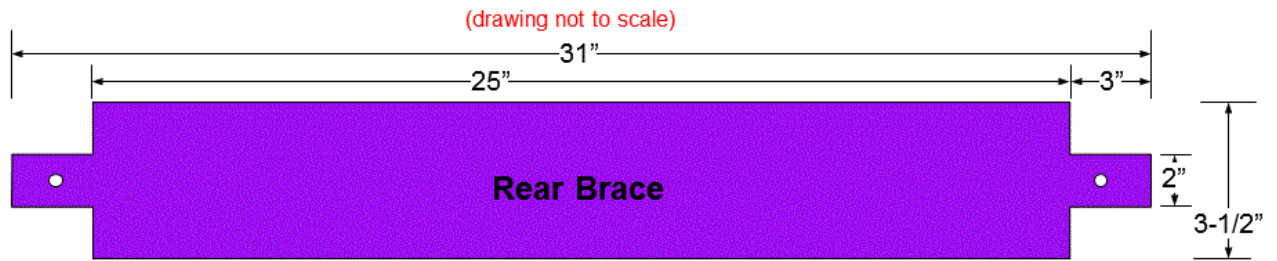

Figure 4
- Using the remaining 8-ft board, cut a 31" piece for the rear brace. See figure 4. Cut the tenons on the end of each board 3" long, but do NOT drill the peg holes yet.